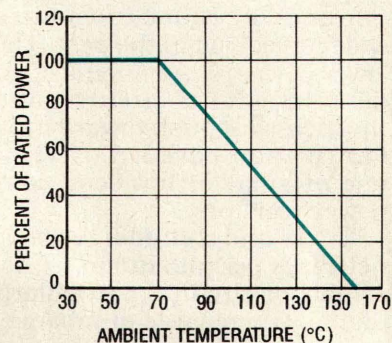

FIG. 2—A TYPICAL RESISTOR DERATING CURVE plots power against ambient temperature, the temperature of the environment in which the resistor is operating.
• **Power rating** is the maximum continuous power, in watts, that a resistor can dissipate at a temperature as high as 70°C . At temperatures beyond 70°C , the power rating is reduced or *derated*. A typical derating curve for a resistor is given in Fig. 2.